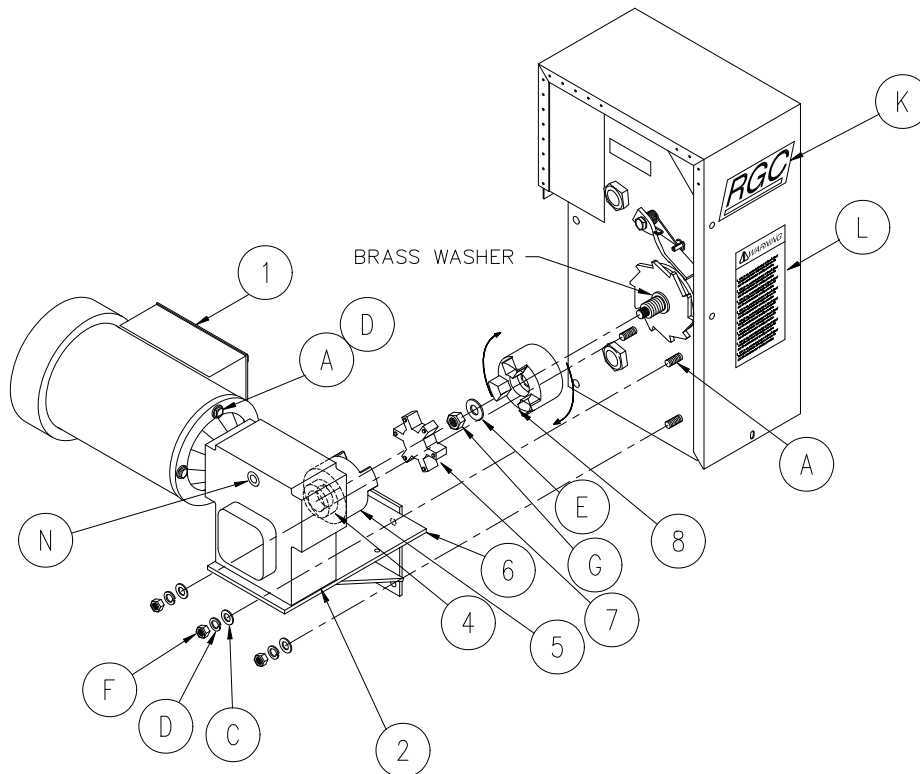

Figure 2-1
1. **Refer to Figure 2-1**, screw the acme coupler (8) clockwise onto the winch input shaft. The coupler must pinch the brass washer and brake sprocket tightly against the friction disk.
3. Install 1/2" washer (E) onto the end of the input shaft.
4. Install and securely fasten the 1/2"-20 locknut (G) onto input shaft. Tighten using a 3/4" socket/ratchet.
2. Refer to Figure 2-1, remove the 3/8 X 1" bolt, nut, and washer, from the direct drive mounting bracket.
7. Mount the direct drive assembly to the winch as shown. Re-install and hand tighten washers and nuts (removed in step 3) onto the winch supplied bolts. Install the 3/8 x 1" bolt (A), washers (C & D), and nut (F) supplied with mounting bracket, from the inside of winch wall to outside of mounting bracket. Lightly fasten.
9. Using a 9/32" wrench, remove from reducer the installed 1/8" shipping plug (red pipe plug). Install the vent plug (N) supplied with unit.